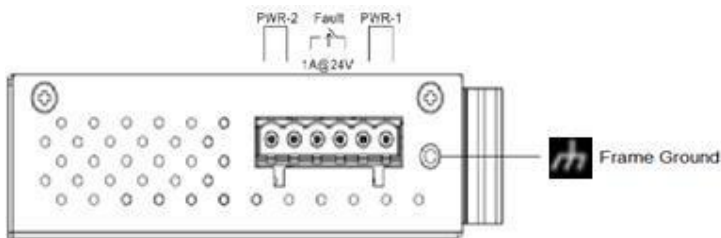

Figure 2.3
*Figure 2.3*, below, shows the top panel of the LMX-0800G series switch that is equipped with one 6-pin removal terminal block connector for dual DC power inputs 12~48VDC.